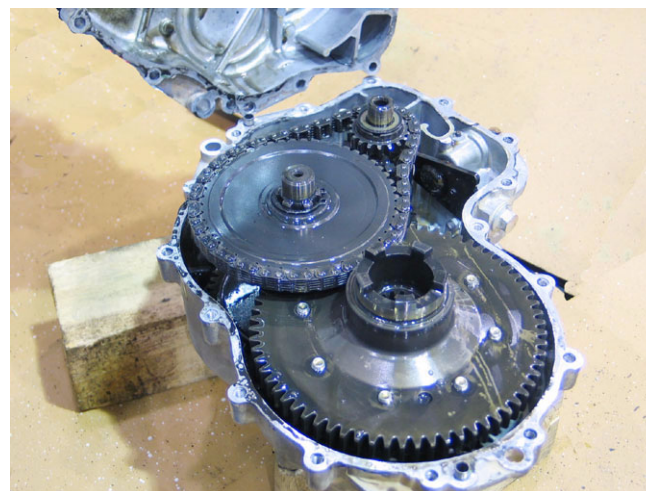

Figure 9.30
- 9.30. Carefully lift away the right side half of the transmission housing. See Figure 9.30.